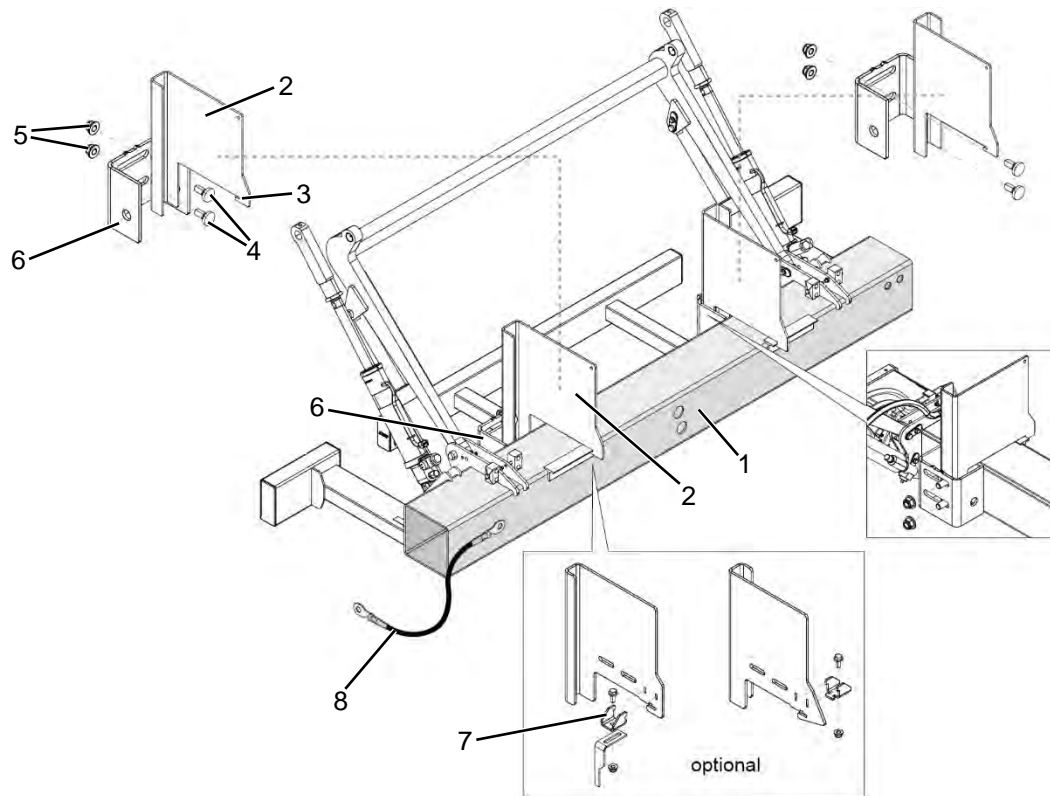

Figure 10: Pre-assembly with laterally adjustable bolted consoles
Connect the locking clamps (7) to the console plate (2) (see Figure 10).